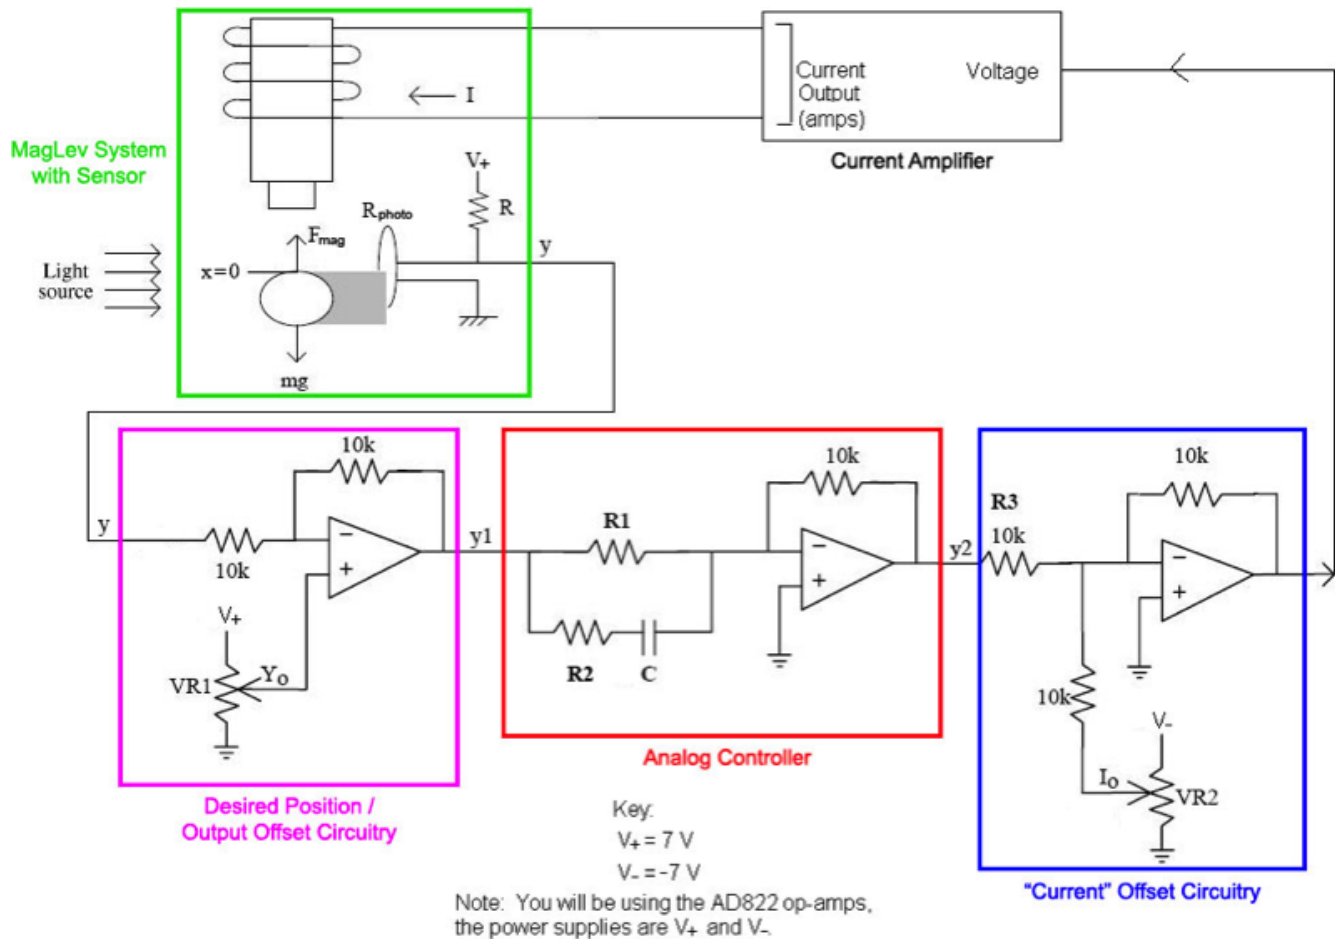

Figure 3: Block diagram of the magnetic levitation setup with circuit level details.
Figure 3 on the next page of these instructions shows a block diagram of the magnetic levitation setup with circuit level details. You will be picking values for  $R_1$ ,  $R_2$ , and  $C$  to stabilize the steel ball around an equilibrium point. The potentiometers will be used to calibrate the photoresistor and the current offset to the equilibrium point.
Let  $y_{ref} := Y_o$  in the left box in Figure 3. This is the reference voltage that you will adjust using a potentiometer. Derive the following relationship between the signal  $y_1$ , the voltage  $y$  from the photoresistor and the reference voltage  $y_{ref}$ :
Derive the following transfer function of the analog controller in the red box in Figure 3:
In the current offset circuit in the blue box in Figure 3, let  $y_i$  be the voltage drop across the potentiometer and let  $V_{out}$  be the output of the op amp. Observe that  $y_i$  will be negative. Derive the following relationship:
You will not have to implement the complete circuit given in Figure 3 in this lab, that will happen next week. However, you will be using the current amplifier. The GSI will help you with setting things up. Do not turn on your circuit before checking off with the GSI! If you want to know more about the current amplified, you can find a data sheet under <http://www.copleycontrols.com/motion/pdf/bantam.pdf>.
- The first offset circuits in Figure 3 is to scale  $y$  down to  $y_1$  such that  $y_1$  moves around 0.
2. Measure the range of variation of the resistance of the photo-resistor as the ball's shadow covers from none to the entire resistor surface. Using this data, determine a suitable resistor value  $R$  to use in series with the photo resistor (see green system box in Figure 3), given that the supply voltage is  $V_+ = 7V$  and the fact that the photo resistor must not exceed a power dissipation of 250mW. *Hint:* You can use the wooden piece to keep the ball from rolling around.